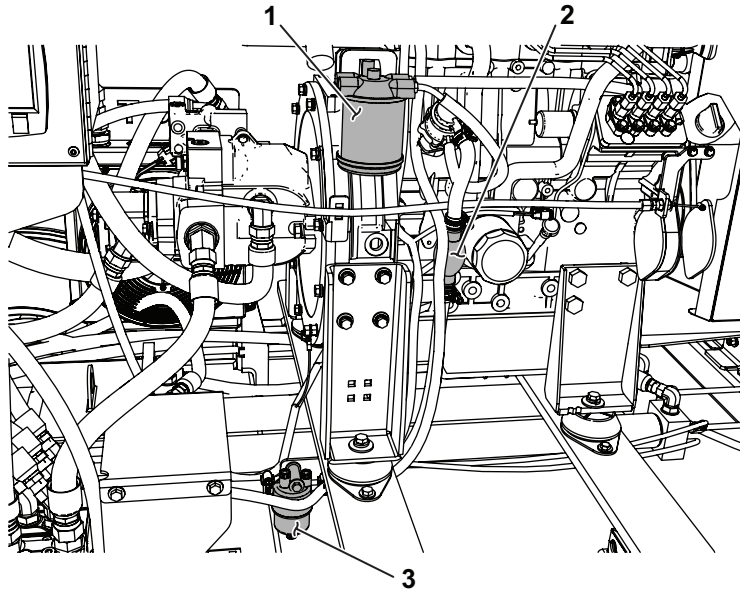

Figure 10 Fuel Primer Bulb
2. Slowly open the left bleeder nut located on top of the fuel/water separator (Figure 10, Item 3) until fuel emerges, and then close the nut.
3. Slowly open the fuel filter bleeder nut located on top of the fuel filter (Figure 10, Item 1).
4. Squeeze the fuel primer bulb (Figure 10, Item 2) until bubble-free fuel is present.